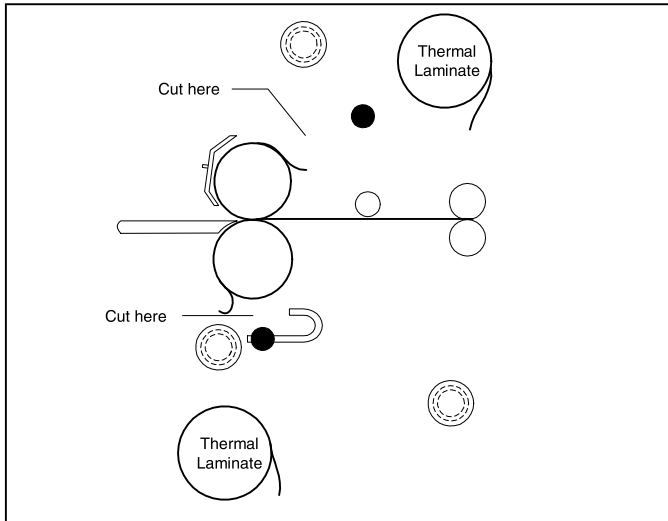

Fig. 33
1. Cut remaining top film web between the idler bar and heat roller. Move the lower idler bar to the web position and cut the film web between the lower heat roller and the idler bar (Figure 33).